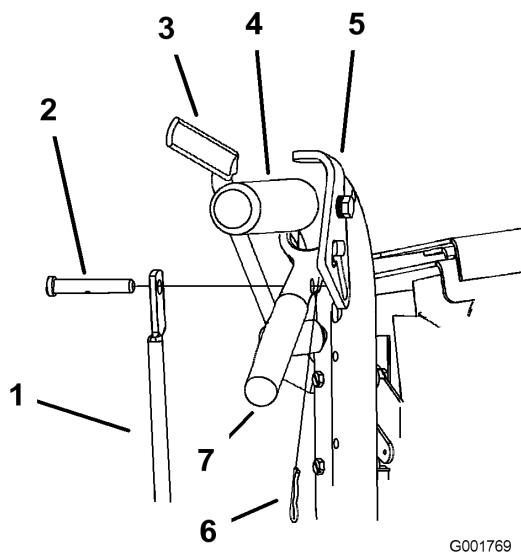

Figure 13
1. Remove the hairpin cotter pins and clevis pins from the drive levers and neutral locks (Figure 13).
5. Adjust the control rod length by rotating the control rod in the rod fitting (Figure 13).
6. Install a hairpin cotter between the drive levers and neutral locks and into the clevis pins (Figure 13).